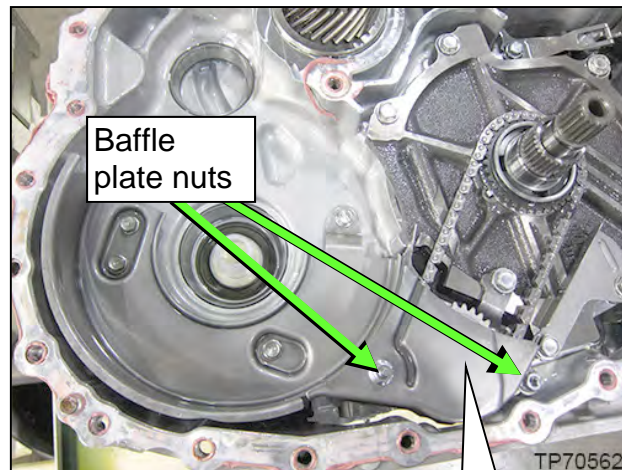

Figure 42
23. Remove the two (2) nuts from baffle plate A, and then remove baffle plate A (see Figure 42).